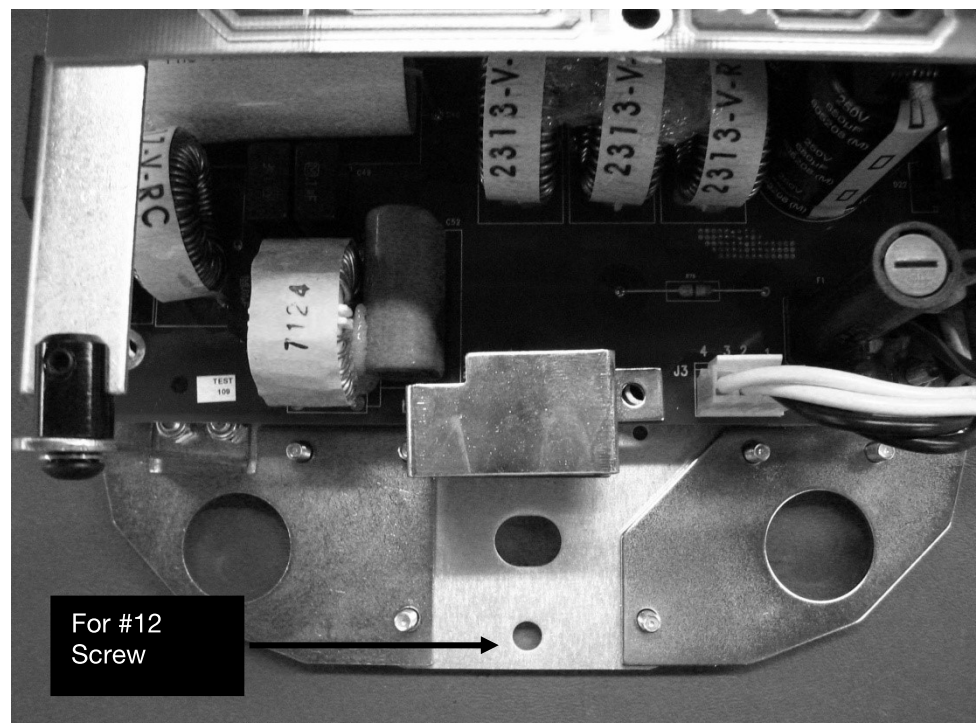

Figure 15
7. Pre-drill a hole for a # 12 wood screw below the lower lag screw, as shown in *Figure 15*. Install and tighten the wood screw to prevent the unit from shifting.